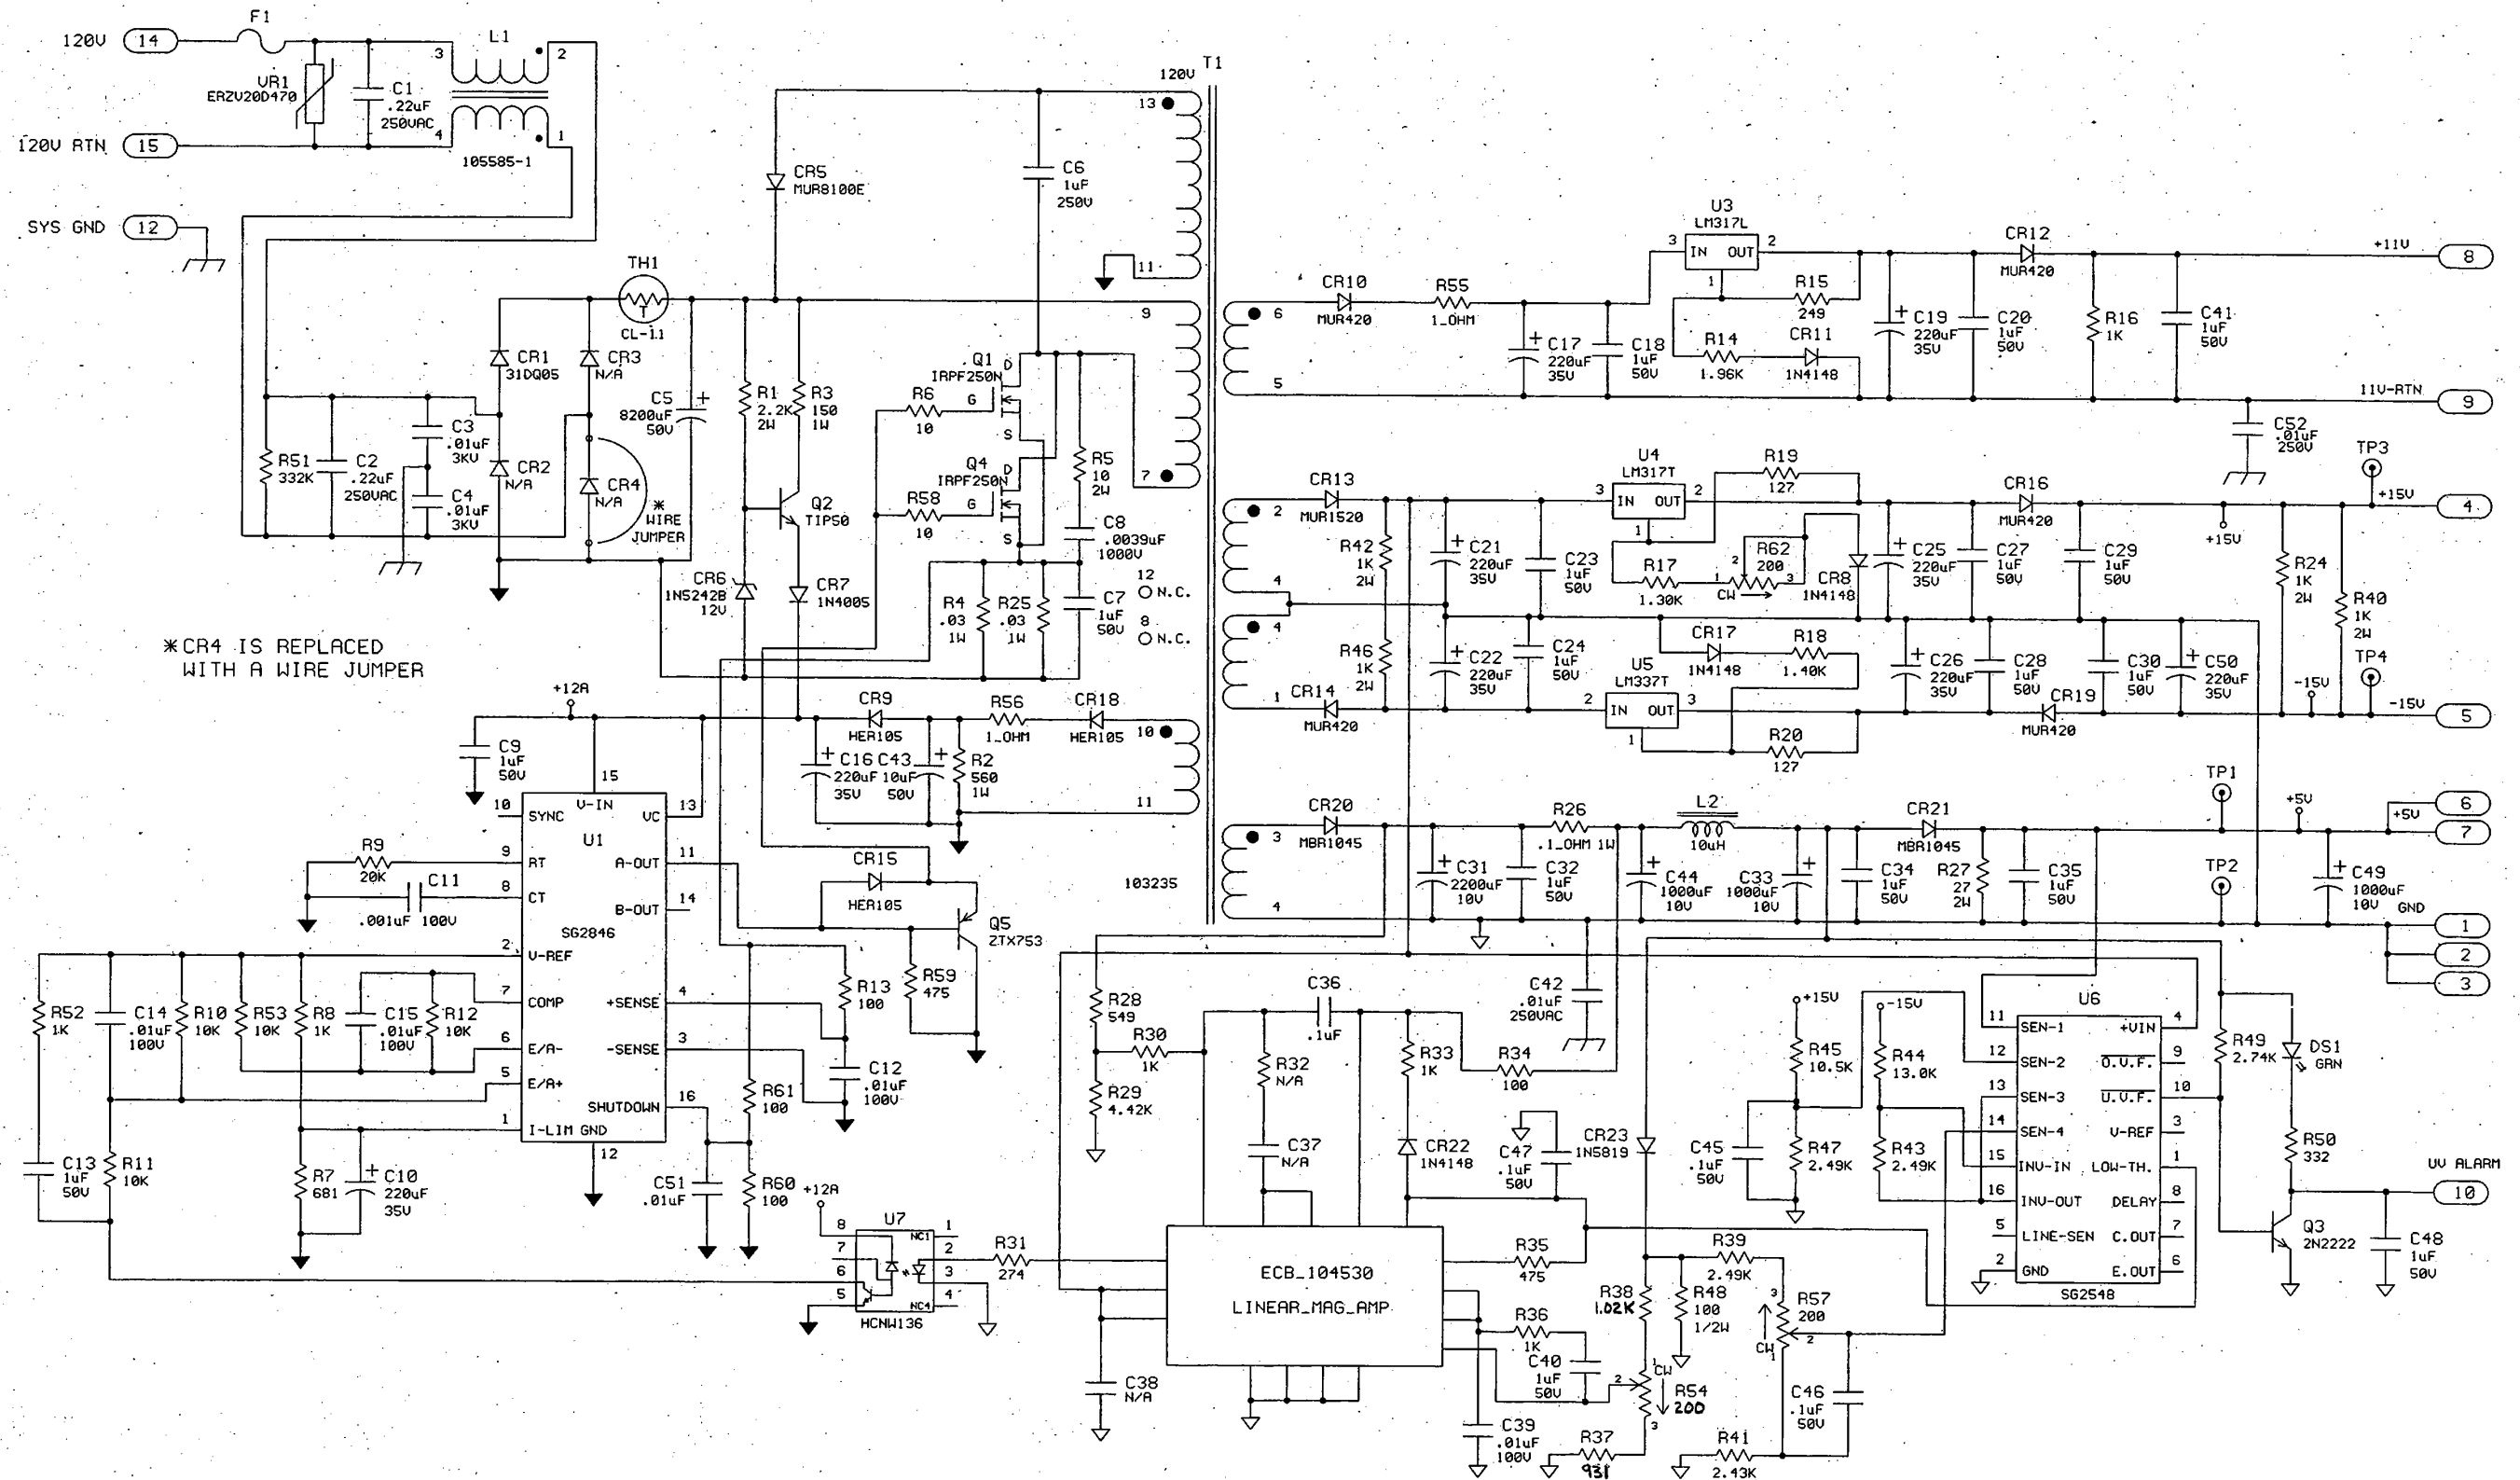

Figure 13-6. Schematic Diagram, 9745 Power Supply 19-36 Vdc (Drawing No. D-105909-1-B)
6. Figure 13-6. Schematic Diagram, 9745 Power Supply 19-36 VDC (Drawing No. D-105909-1-B)